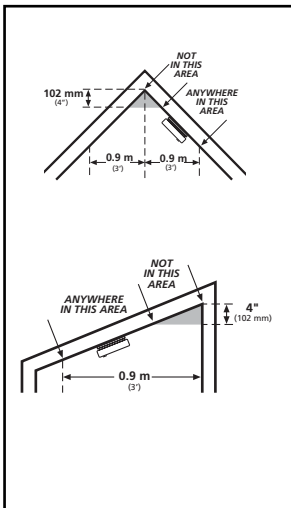

FIGURE 3
- Install Smoke Alarms on sloped, peaked or cathedral ceilings at or within 0.9 m (3 ft) of the highest point (measured horizontally). Smoke alarms in rooms with ceiling slopes greater than .3 m in 2.4 m (1 foot in 8 feet) horizontally shall be located on the high side of the room. A row of detectors shall be spaced and located within 0.9 m (3 ft) of the peak of the ceiling measured horizontally (see Figure 3).